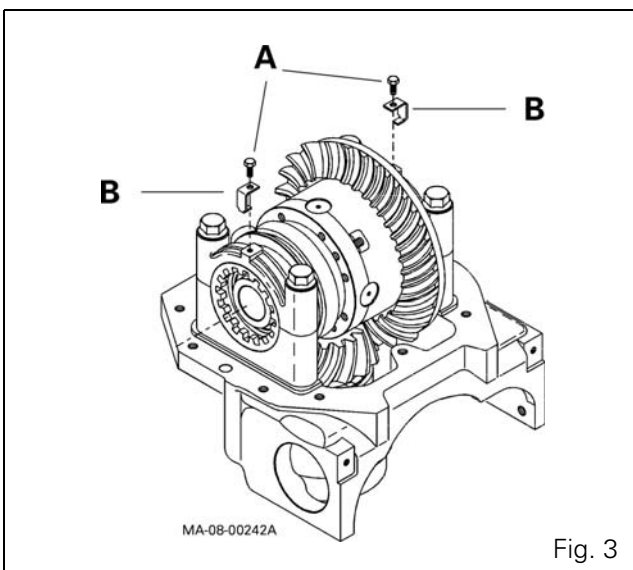

Fig. 3
8. Loosen and remove screws A to extract the two nut retainers B (Fig. 3).